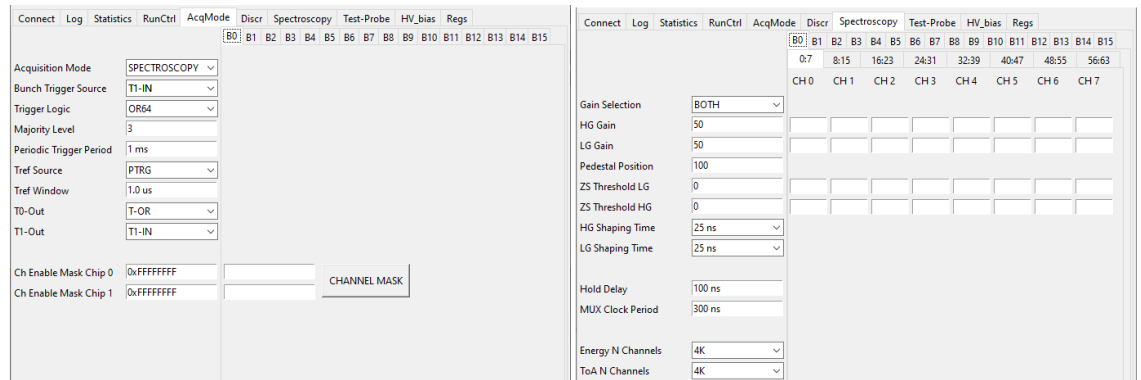

Fig. 10.43: The initial settings used for the acquisition of single photon spectra. On the left, the AcqMode tab, on the right the Spectroscopy tab.
3. Select the pulse height output from one of the two available amplification chains inside the Citiroc-1A through the "Gain Selection" parameter. Fig. 10.43 shows the initial settings used for the acquisition of single photon spectra.